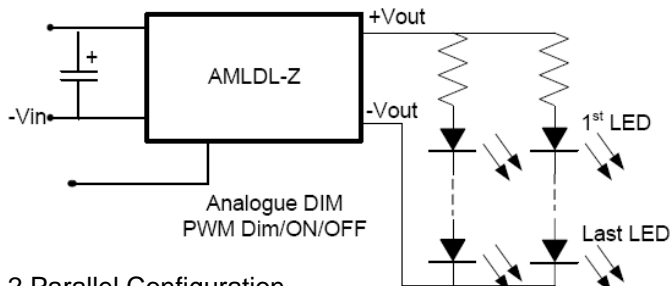

Figure 2 Parallel Configuration
Taking an example where 10 LEDs were used in a lamp, the LEDs could be arranged in 2 paralleled strings of 5 LEDs each. This configuration is illustrated below in Figure 2.
- This configuration also requires only the use of a single output driver, while the output voltage is relatively low, comparable to that of the Parallel Strings configuration shown in Figure 2.